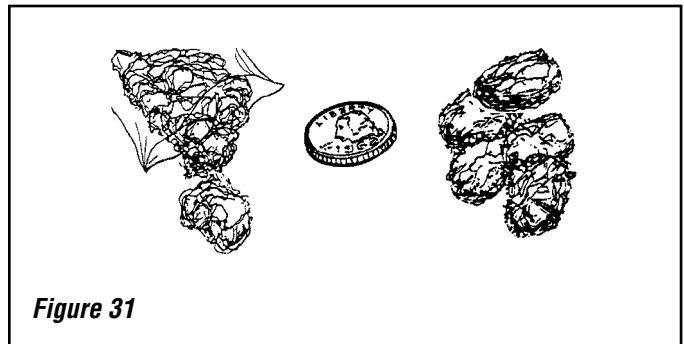
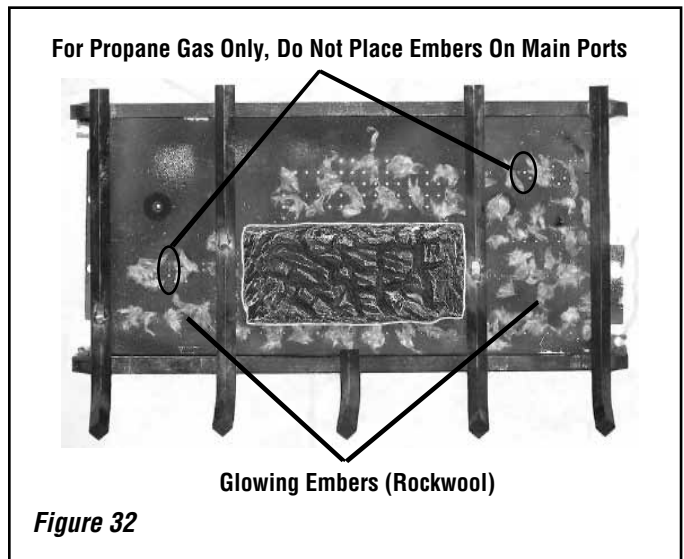

Figure 31
Figure 32
Step 3. Separate the glowing embers (rockwool) into pieces about the size of a quarter (see **Figure 31**). Keep the pieces fluffed, not matted. Distribute these pieces over the burner as shown in **Figure 32**. Do not use more than necessary. When properly positioned, the Glowing Embers will cover approximately 75% of the burner on natural gas. For propane gas, do not place embers on main ports.